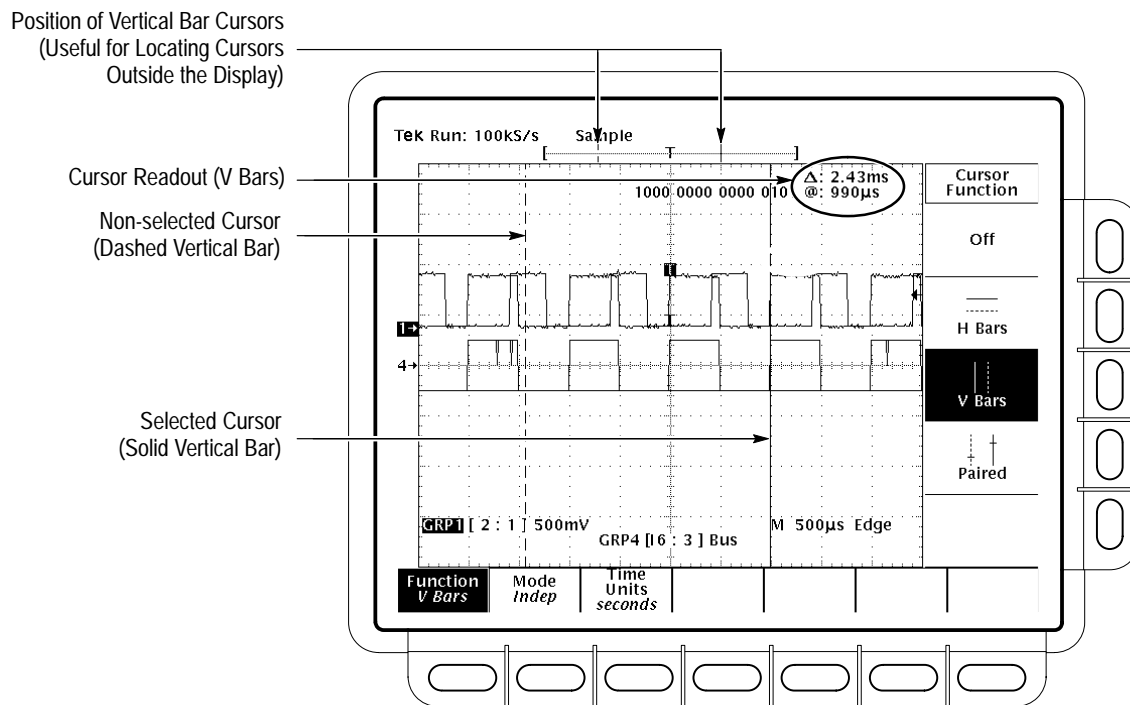

Figure 3-40: Vertical Bar Cursor Readout (With Binary Readout)
**V Bars** The value after  $\Delta$  shows the time (or frequency) difference between the cursors. The value after @ shows the time (or frequency) of the selected cursor relative to the trigger point. The value before @ shows the binary value at the intersection of the selected cursor and the waveforms in all existing groups whether displayed or not. (See Figure 3-40.) (The binary readout is described in detail below.)